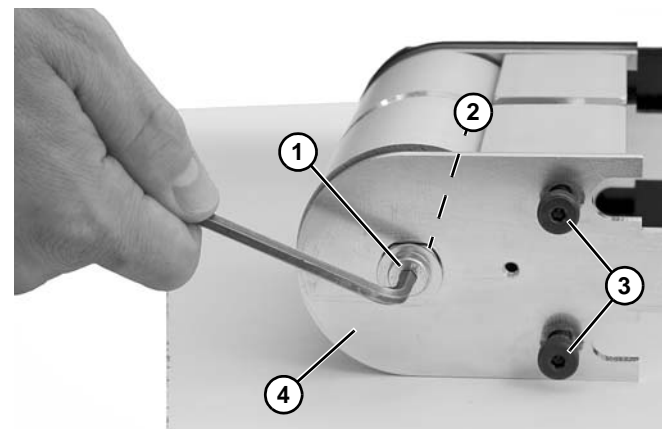

Figure 74
3. Remove cap screws and washers (Figure 74, item 1) from idler shaft (Figure 74, item 2) from both sides of the tail.
4. Remove shoulder screws (Figure 74, item 3) from backing plate (Figure 74, item 4) on one side as shown.